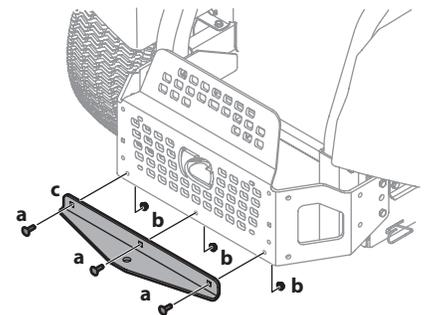

Figure 2-11
2. Install the hitch bracket (c) as shown in Figure 2-11 and secure with the hex flange screws (a) and flange lock nuts (b) removed in Step 1.